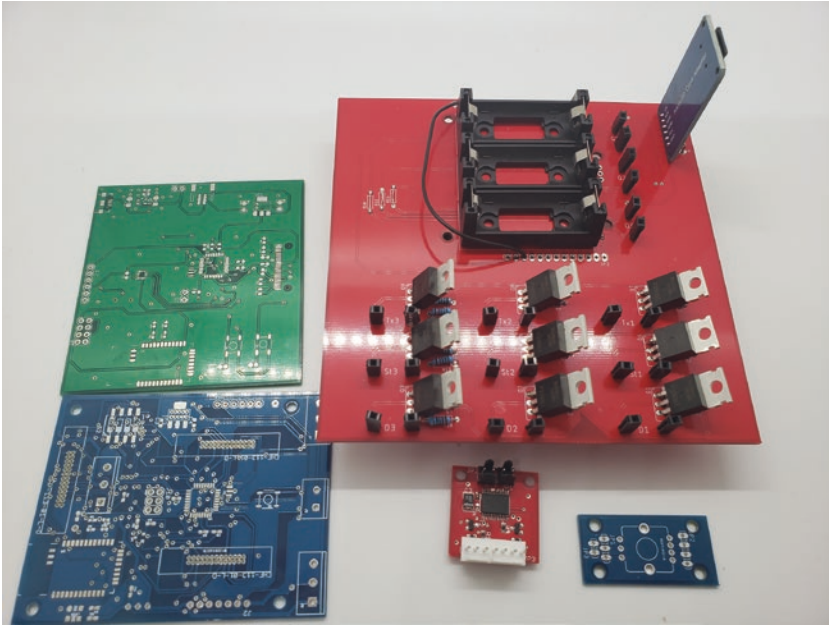

Figure 5-1. Examples of PCB boards including an Arduino board, battery tester (courtesy of David Segal and Chris Defant), H-bridge, rotary encoder breakout
PCB stands for Printed Circuit Board; PCBs are created using PCB Design software. The design software will have both a schematic section and a board section. The schematic section will have a diagram like reference to all connections such as: integrated circuit (IC), passive electrical component, and so on. The board section will have the component layout, wiring, drills, and so on that are needed to create the actual board. Once both sections are completed, the board file will be compiled into a Gerber file which will hold all the information that the PCB manufacturer needs to create the PCB. All of these will be explained in detail in this chapter. Figure 5-1 illustrates some examples of PCBs manufactured by PCBWay.